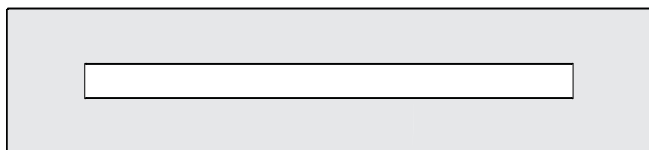

Figure 2 – VFLB(48,60)SP90(N,P)
2. Place logs and rocks in the shaded areas in **Figures 2 and 3.** Do not place logs where they will contact flames or inside the flanges and glass surrounding the burner. Place any unused logs and rocks in the original carton and store in a dry place out of the reach of children and pets. The look of the fireplace can be refreshed by rearranging or swapping out logs and rocks. See page 4 for suggested log placement for each model.